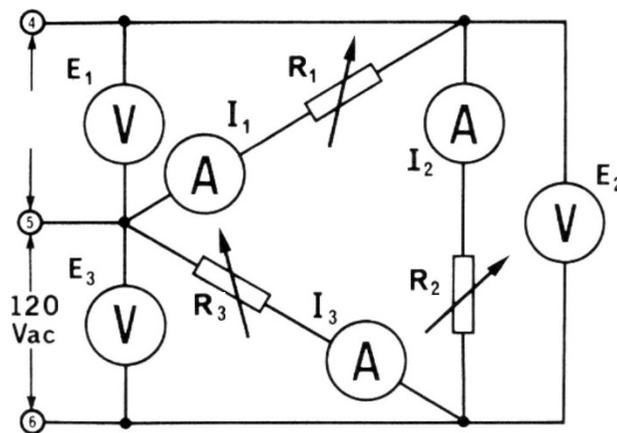

Figure 02-3
5) Connect the “A”-circuit as shown in Figure 02-3: